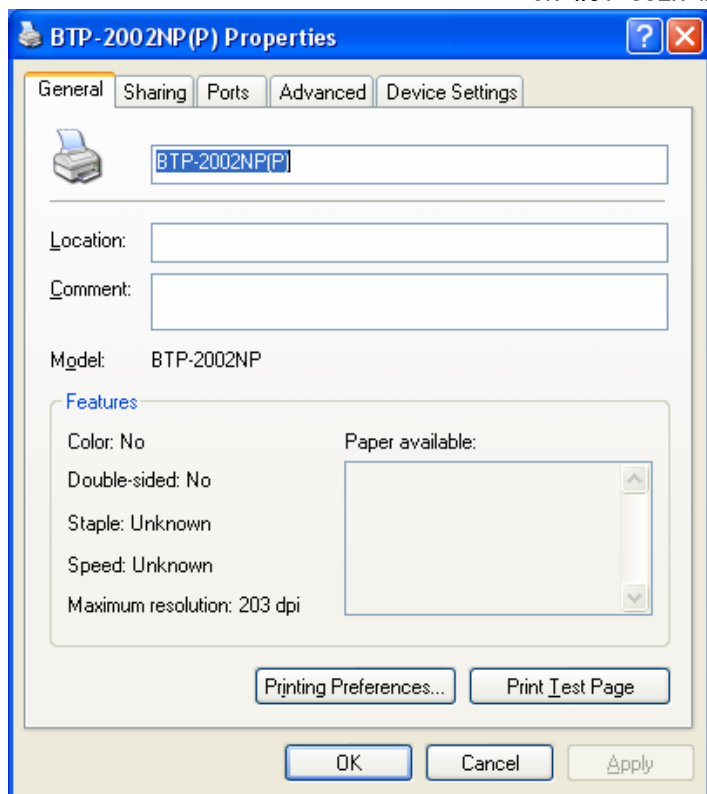

Figure 5.5.1 Printer properties window
- 1) Click BTP-2002NP printer icon installed, then open properties column as shown in Figure 5.5.1;